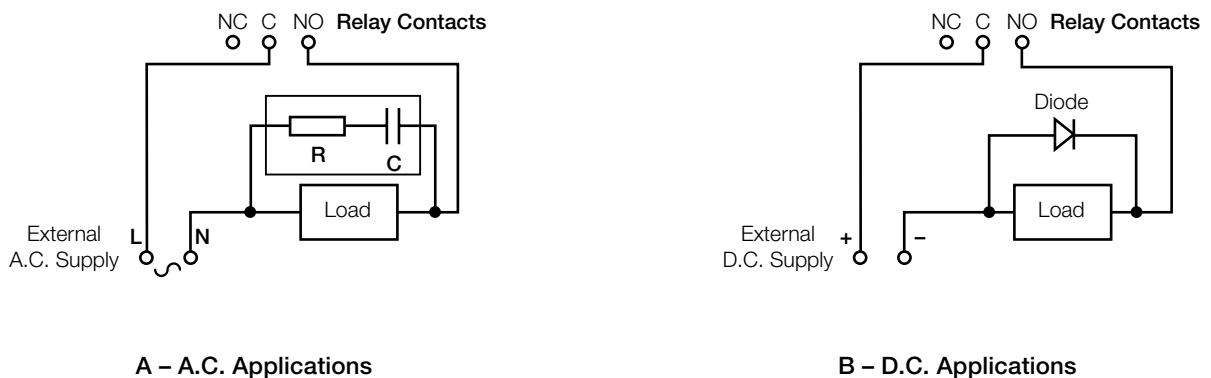

Fig. 4.3 Relay Contact Protection
4.2.1 Relay Contact Protection and Interference Suppression – Fig. 4.3
If the relays are used to switch loads on and off, the relay contacts can become eroded due to arcing. Arcing also generates radio frequency interference (RFI) which can result in instrument malfunctions and incorrect readings. To minimise the effects of RFI, arc suppression components are required; resistor/capacitor networks for a.c. applications or diodes for d.c. applications. These components can be connected either across the load or directly across the relay contacts. On 4600 Series instruments the RFI components must be fitted to the relay terminal block along with the supply and load wires – see Fig 4.3.